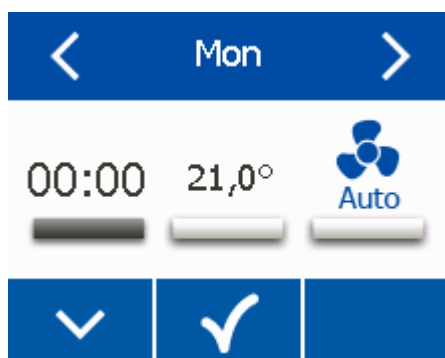

Fig. 87: Setting the time of day
4. ▶ On the screen in Fig. 87 set the start time for the selected time of the day using the ▼ and ▲ buttons; then confirm your entry by clicking ✓.